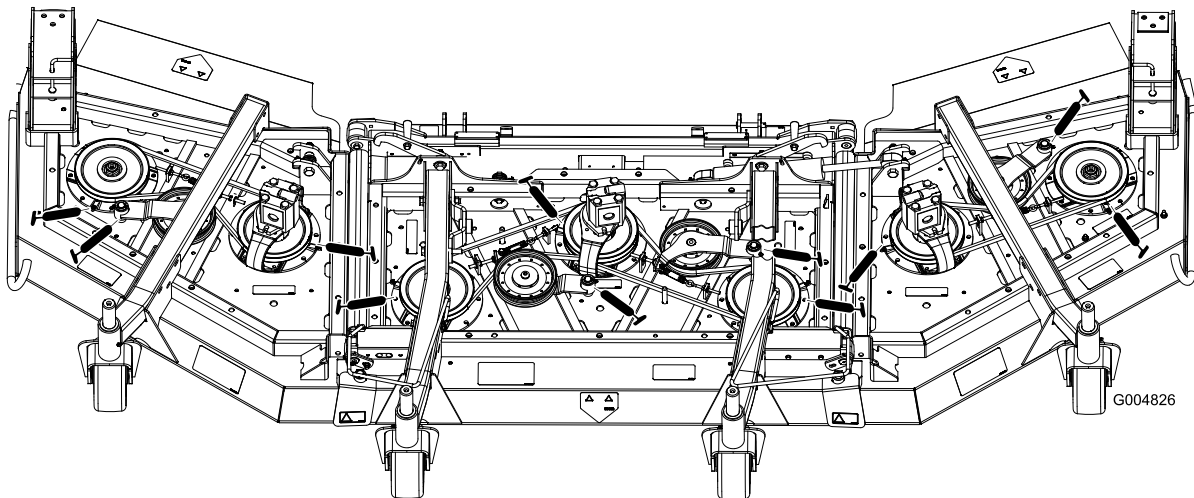

Figure 45
- Spindle shaft bearings (3) (Figure 45)
- Idler arm pivot bushings (2) (Figure 45)